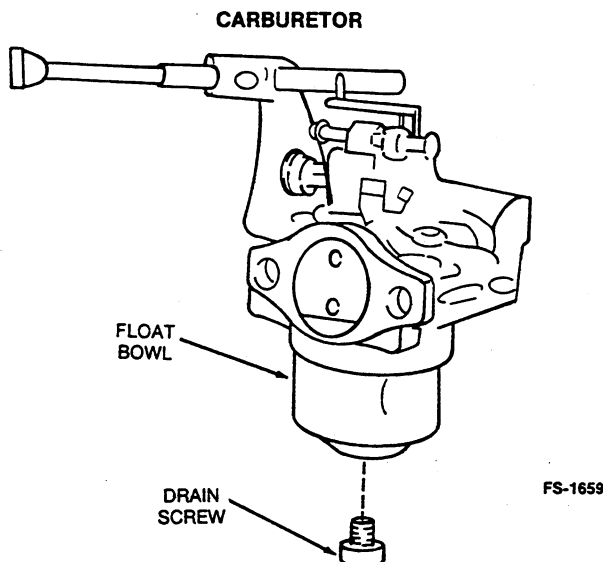

FIGURE 6. FUEL DRAIN LOCATIONS
5. Drain gasoline from the carburetor float bowl by loosening the drain screw (make sure fuel valve is closed). Figure 6 shows a typical carburetor. Tighten the drain screw when finished.
2. Loosen the carburetor float bowl drain screw and run gasoline into a container designed for gasoline usage. Figure 6 of OPERATION section shows drain screw location.